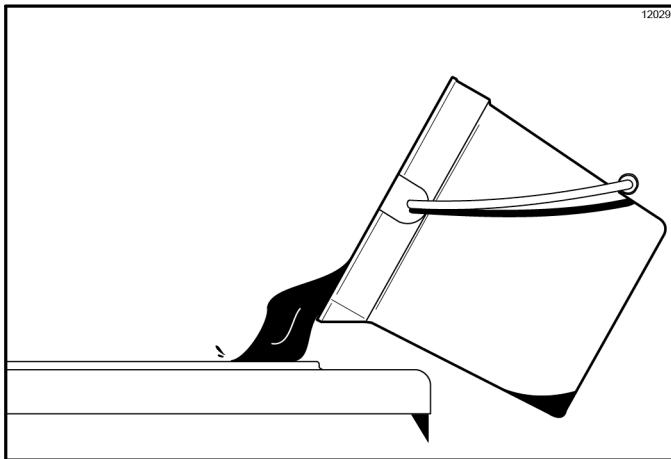

Figure 6-44
2. Pour the sanitizing solution over all the parts in the bottom of the mix hopper and allow it to flow into the freezing cylinder. (See Figure 6-44.)